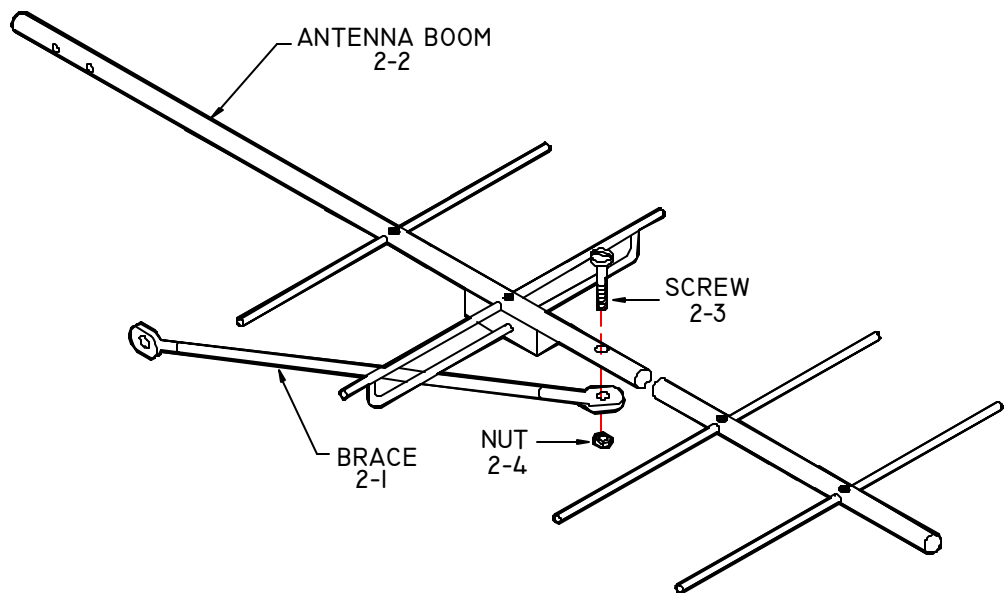

Figure 1
- a. Attach bent end of brace to mounting hole on antenna boom, per Figure 1. The boom should have its brace installed below it. Be sure to only finger tighten the bolts to avoid hole alignment problems, until assembly is complete.